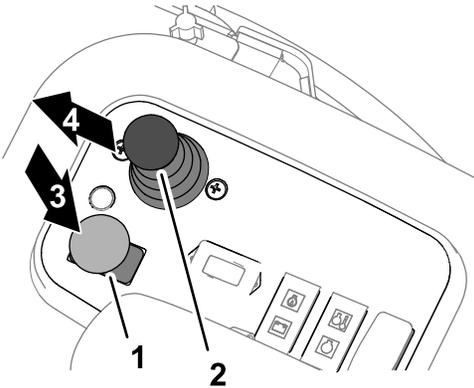

Figure 50
3. Press the cutting unit drive switch to the DISENGAGE position (Figure 50).
5. Move the lower mower/raise control lever forward (Figure 50).